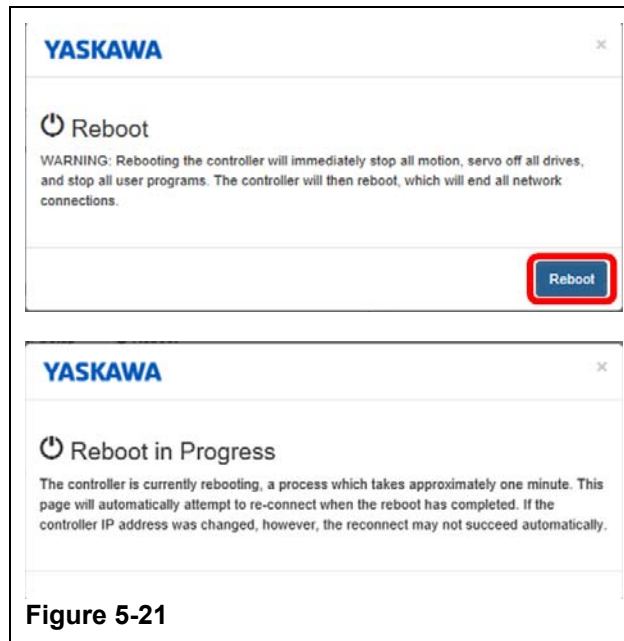

Figure 5-21
- viii. On the 'Reboot' pop-up screen, press the "Reboot" button. This will make all of the recent changes persistent in the Yaskawa controller. (Refer to Figure 5-21)